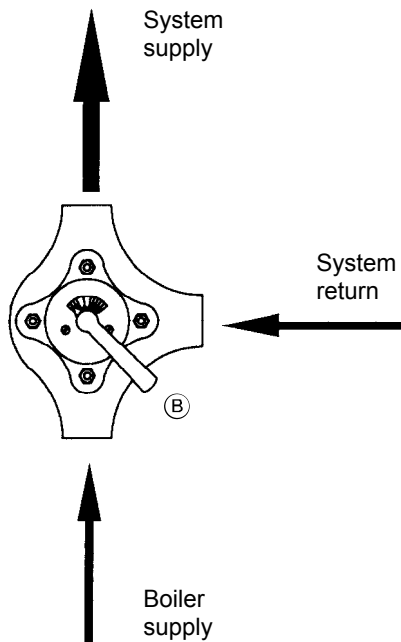

Fig. 4
If the system return is piped into the mixing valve from the right-hand side (see Fig. 4), mount the photoelectric sensor in position (B) on underside of mixing valve actuator housing.